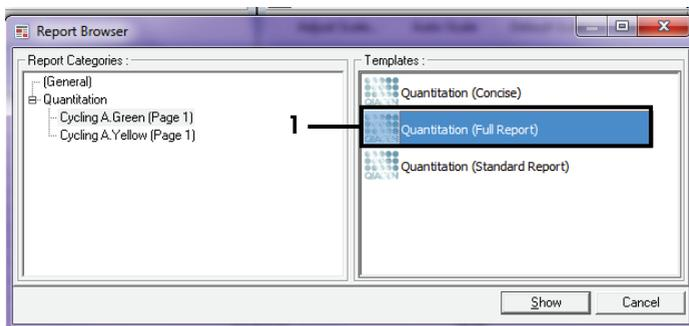

Figure 38. Quantitation report (Full Report) (1).
10. Select **Quantitation (Full Report)** under “Templates” (Figure 38).